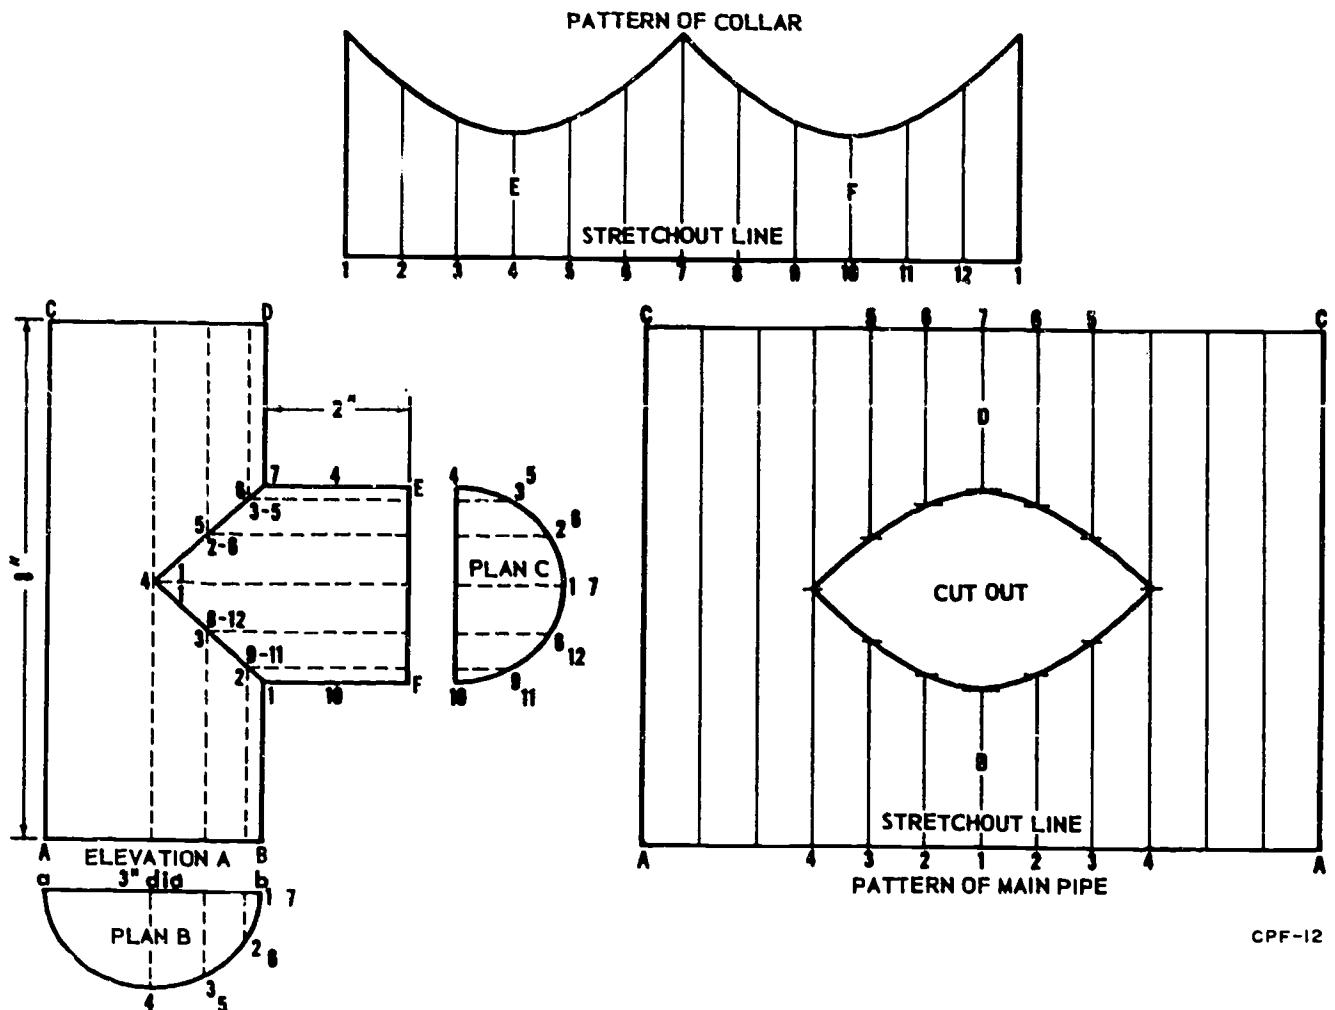

Figure 1-70. Developing patterns for T-joints.
**T-joint.** You have seen that to develop a stretchout pattern by the parallel line method, elevation and plan views must be drawn. These two views, when constructed, will give you the true lengths of all miter and element lines. In figure 1-70, you can see the two main parts of a T-joint collar, or branch, and main pipe. The lines where the main pipe and collar meet are called lines of intersection. These lines also are called miter lines.
Figure 1-70 illustrates the method of constructing miter lines in the elevation view and the projecting lines from the plan views. Both pipes shown have a diameter of 3 inches to simplify the layout explanation. Draw elevation view A by using a T-square and a rule. Draw line AB 3 inches long. Draw lines AC and BD perpendicular to line AB. Draw line DC parallel to line AB. Draw the half-plan view B directly below the elevation view, and divide half of the arc into three equal spaces. Number and project the dividing points to elevation view A by using the T-square and the triangle to form lines 1 through 7. In this example, the intersecting point for the collar is at the center of the elevation view. At the center of line AC in the elevation view, draw the dotted line 1-7-1 so that it will extend 2 inches beyond line BD. Line ER is 3 inches long; set the compass for 1½ inches and strike an arc from the 2-inch mark on line 1-7-1. To both sides, draw solid lines 4-E and 10-F, using a T-square. Draw line ER 2 inches to the right of line BD, using the T-square and triangle.
Draw half-plan view C and divide the arc into six equal parts and number as shown in figure 1-70. Project the points on the arc with a T-square until each point intersects a line. Notice where the horizontal element lines intersect the vertical element lines in the elevation view. Draw the V-shape miter lines by joining intersecting points 1, 2, 3, 4, 5, 6, and 7. Miter line 1-4 is 45° to line AB. Miter line 4-7 also is 45° to line AB.
To develop a pattern for a collar, shown in figure 1-70, draw a stretchout line equal in length to the circumference of the pipe. Divide the stretchout line into 12 equal spaces, and elevate the element lines. Transfer the element lengths to the stretchout, and join the intersecting points as before. Notice that the collar will be joined at the cheek.
To develop a stretchout pattern for the main pipe, the length of the stretchout line will be equal to the circumference of the main pipe (9.4248 inches), and the height will be 8 inches. Divide the stretchout into 12 equal parts, and elevate the element lines. Notice that the numbering is somewhat different in this stretchout. In this case, it is easier to start numbering at the center, since the joining point is line AC and the center is line BD. The cutout is on both sides of center. The length of the cutout lines can be projected easily with a T-square from the elevation view; however, these projection lines are not shown in figure 1-70. Points 1 through 7 in the elevation view are projected to form the cutout. When the intersecting points in the stretchout are connected, you have a pattern for the main pipe. Compare the numbering of the element lines in the stretchout with the numbering of the element lines in the elevation view.